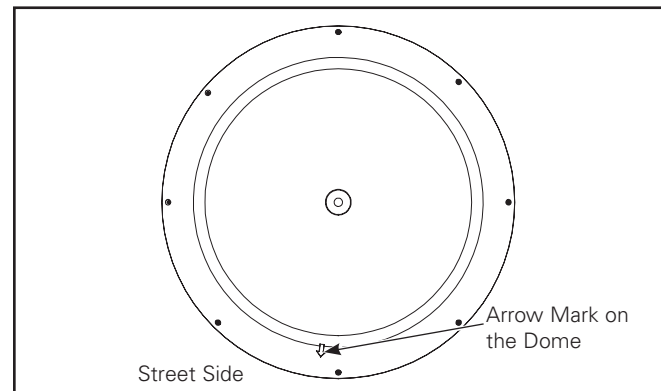

Figure 4.
5. For luminaire with asymmetric optics, rotate the fixture according to arrow mark on the dome towards the street side. (Figure 4.)